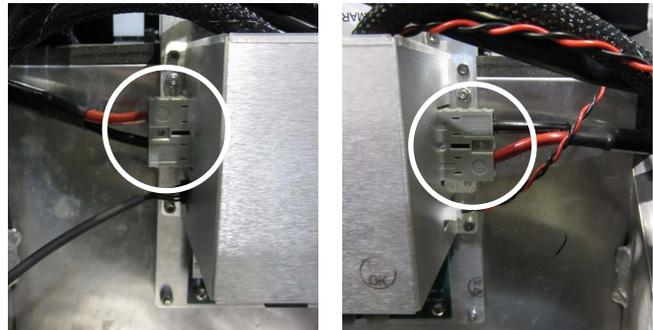

Figure 152: Motor Power Harnesses to PI Board
3. Disconnect the wire harness from the PI Board. See Figure 152.
4. Feed the harness under the horizontal brace on the frame and connect it to the PI Board. See **Figure 152**.